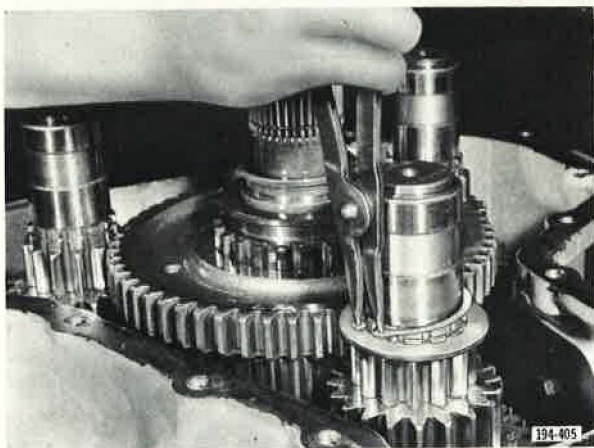

Figure 7. Removing Countershaft Selective Thrust Washer Snap Ring
3. Remove front countershaft selective thrust washer snap rings from the three countershafts, then remove the three countershaft selective thrust washers. See Figures 7 and 8.